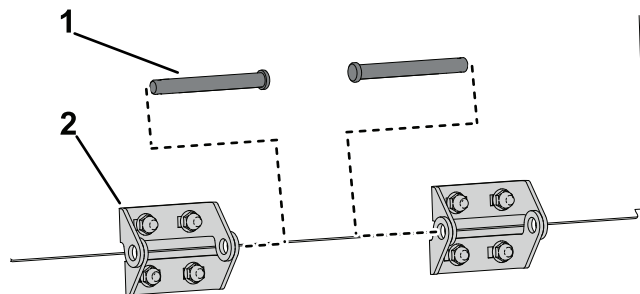
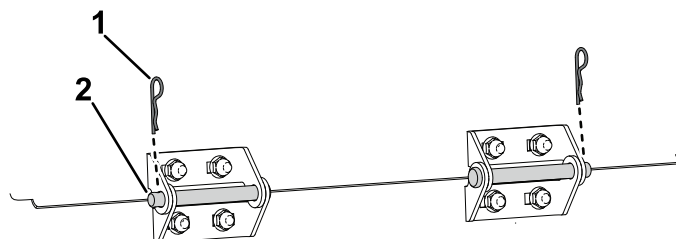

Figure 8
Figure 9
- Install the hopper door to the machine by connecting the 2 sides of the hinge with the hinge pin as shown in Figure 8 and Figure 9.